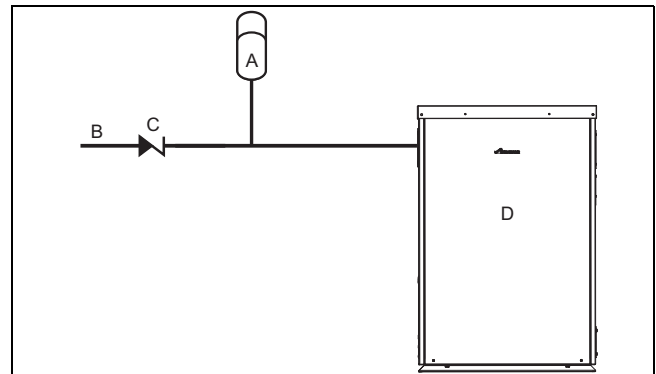

Fig. 3 Mains expansion vessel
- Where the water main supply has a non-return, back flow prevention valve fitted, a mini expansion vessel (A) must be connected to the mains water inlet pipe (B) between the non-return valve (C) and the boiler (D) as shown in figure 3.